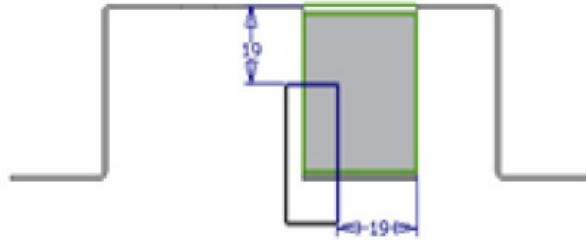

Figure 15-100 *Sketch of the cut feature*
1. Define a new sketch plane on the front face of the third contour flange and create the sketch of the cut feature, as shown in Figure 15-100. After creating the sketch, exit the sketching environment.